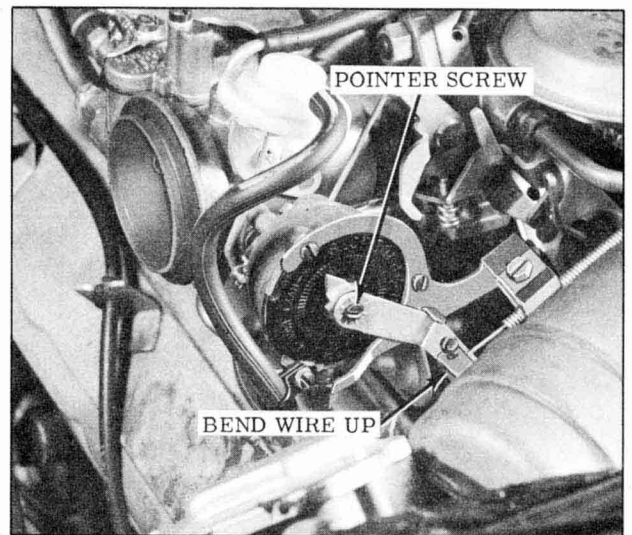

Fig. 9-139 Checking Adjustment
3. With the choke properly adjusted the fast idle screw will be on the second step of the fast idle cam and the outside choke lever contacting the end of the detent. (Fig. 9-139)